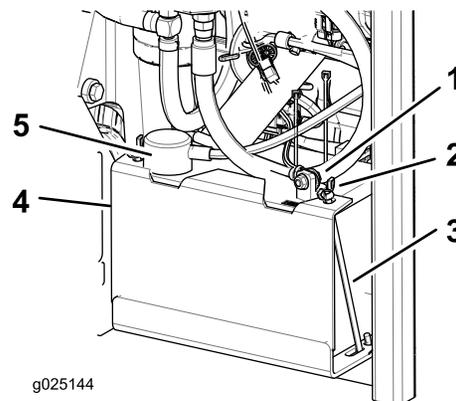

Figure 47
3. Disconnect the negative battery cable (black) from the negative (-) battery terminal (Figure 47).
4. Slide the red terminal boot off the positive (red) battery terminal and remove the positive (+) battery cable (Figure 47).
5. Remove the wing nuts securing the J-hooks (Figure 47).
6. Remove the clamp (Figure 47).
1. Position the battery in the tray with the terminal posts opposite from the hydraulic tank (Figure 47).
4. Secure the cables with 2 bolts, 2 washers, and 2 locknuts (Figure 47).
6. Install the clamp and secure it with the wing nuts and J-hooks (Figure 47).